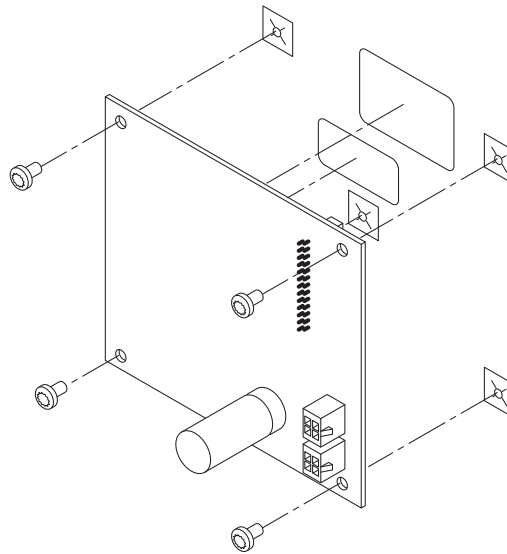

Figure 2-14. Controller Card Mounting
Refer to Figure 2-14 and the instructions below to mount the LED/switch controller card assembly to the back of one of the LED/switch cards.
3. Secure the controller card to the board using four 6/32" x 1/4" Torx screws, as shown in Figure 2-14.